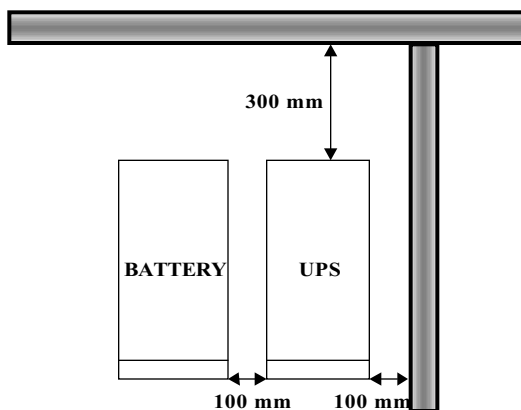

Fig. 3-1 VENTILATION (TOP VIEW)
- The UPS should always have a clearance space of 300mm at the rear and 100mm on its side. Refer to Fig.3-1.